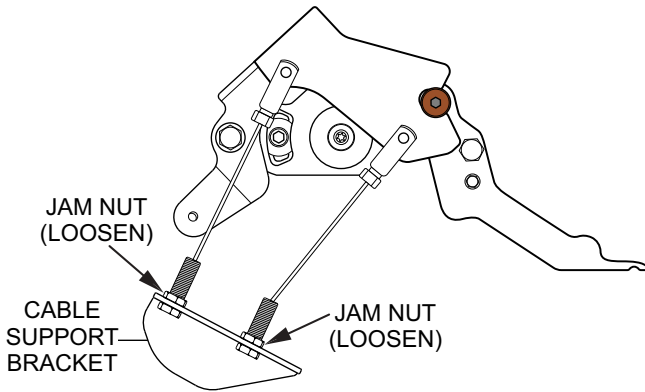

Figure 53. FWD/REV Cable Support Bracket
2. If necessary, disconnect both the forward and reverse control cables from the cable support bracket as shown in Figure 53.